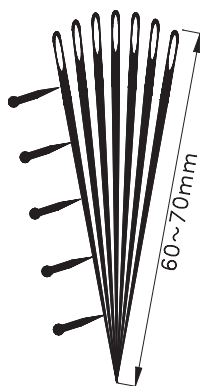

Fig B-5. A focus aid, made with sewing needles
If a commercial line-pair gauge is not available, a convergence style focus aid can be constructed, using sewing needles. See Fig B-5.
- Photocopy of Fig B-5
- A piece of 3 mm thick medium density fibreboard (MDF), or a piece of thin acrylic plastic, cut to the size of Fig B-5.
- Using adhesive, attach a photocopy of Fig B-5 to piece of 3.0 mm MDF, or thin acrylic, cut to the size of Fig B-5. Use this diagram for positioning the needles.
- Using Fig B-5 as a template, place the needles on top of the outlines shown in the drawing. Start first from the two outside positions, working from each side towards the centre. A pair of tweezers will help in positioning. The 'rotation' position of the needle eye is not important.
- If using the focus aid (Fig B-5), observe the distance from the apex before blurring occurs, which indicates focus quality.